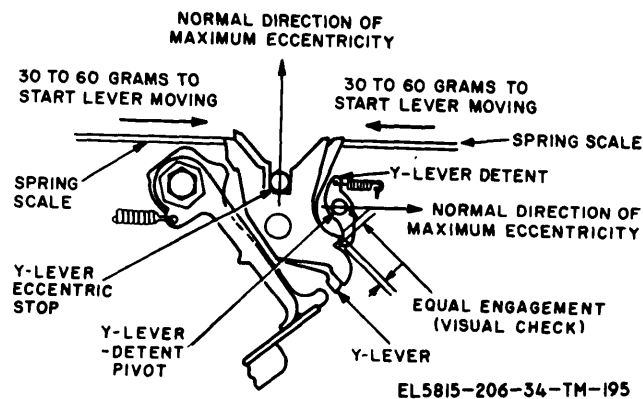

Figure 3-123. Y-lever detent and Y-lever adjustment (TT-4B/TG, TT-4C/TG, TT-335/TG, TT-537/G, TT-698A/TG, and TT-698B/TG).
(fig. 3-123)
(1) Loosen the plain hexagonal nut (fig. 3-123) and turn the centering sleeve to meet requirement (a above).
(2) Replace a Y-lever-detent spring which does not meet the tension requirement (para 3-163). If the